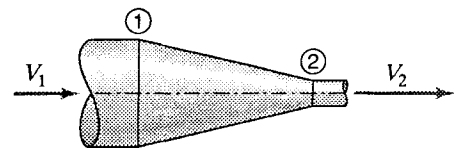

Figure 6.3(a)
6.5 The diameters in Fig. 6.3 are 42 in and 30 in. At the larger end the pressure is 90 psi and the velocity is 12 fps. Neglecting friction, find the resultant force on the horizontal conical reducer if water flows (a) to the right; and (b) to the left. (c) What would happen to the two previous answers if we did not neglect friction?